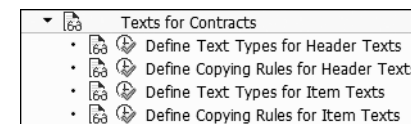

Figure 8.23 Texts for Contracts
1. To begin the configuration, navigate to **IMG (SPRO) • Materials Management • Purchasing • Contract • Texts for Contracts**, as shown in Figure 8.23.